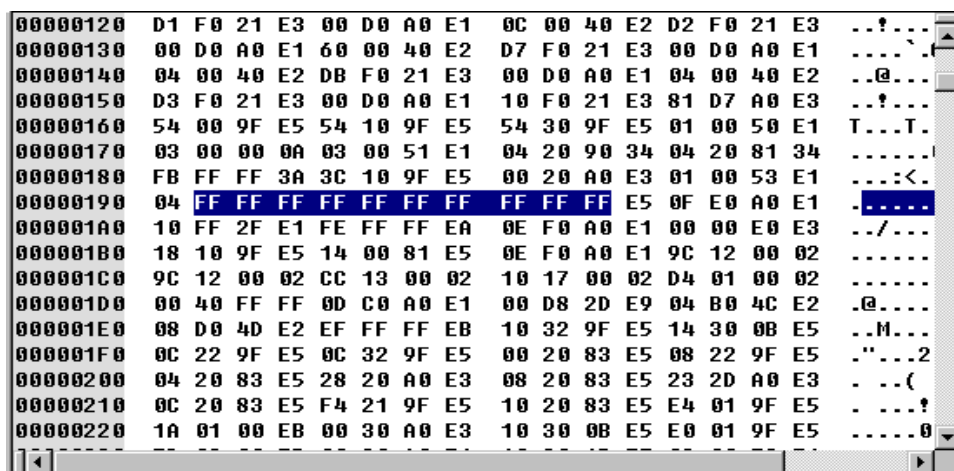

Fig. 4-8 Hex file Editor in Source Program Window
**Edit file:** after open Hex file, the display in Source Program Window is shown in fig. 4-8. The user can directly modify the content of file in left Hex area. The editor will automatically identify ASCII characters and display in the right. As the same, the user can also directly input ASCII code in right ASCII area.